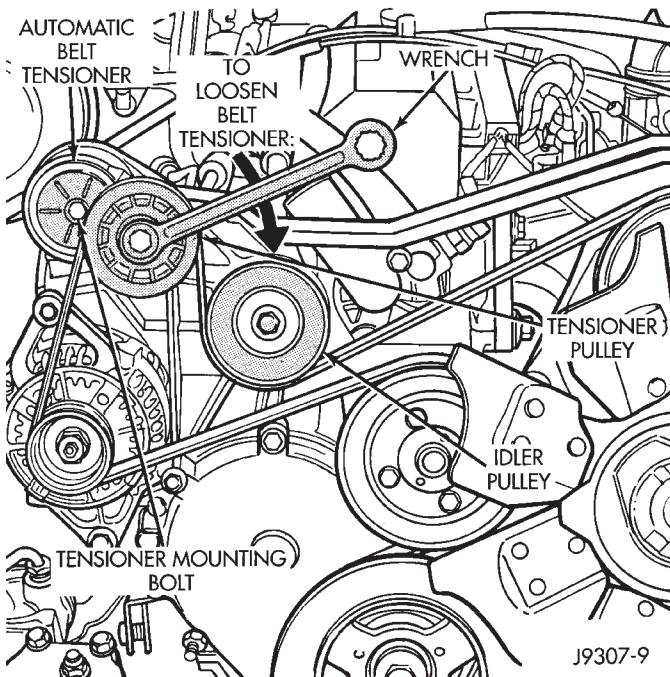

Fig. 6 Belt Tensioner
(2) Remove belt tension, turn tensioner clock-wise and slip belt off pulley (Fig. 6).
(7) Install belt, turn tensioner clockwise and slip belt onto pulley (Fig. 6).
(8) Install pressure and return lines to pump. Refer to Pressure and Return Line Replacement in this section.
(9) After installation, add power steering fluid, inspect and test for fluid leaks. Refer to Power Steering Pump—Initial Operation.